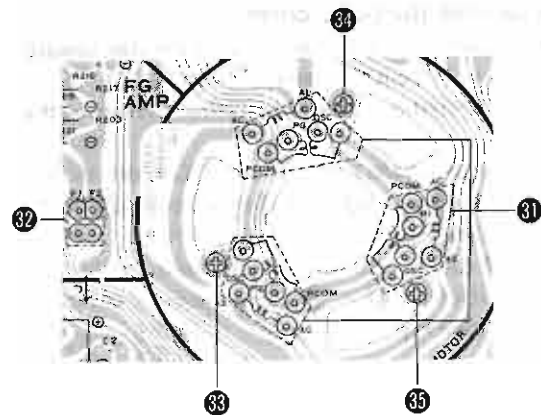

Fig. 10
Disconnect the soldered part ① (18 portions) of the stator coil and ② (4 portions) of the FG detection coil; remove the stator coil setscrews ③ ~ ⑤, then the FG detection coil and stator coil can be removed from the drive P.C.B. (See Fig. 10)